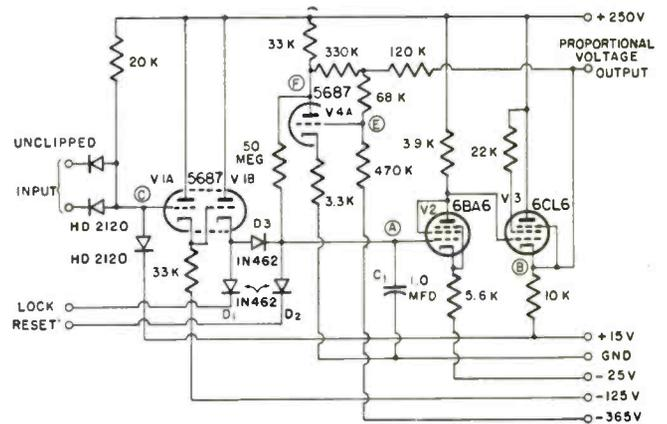

Fig. 5: Comparator circuit generates voltage for measuring units.
Referring to the circuit diagram of Fig. 5, we find that when P1 and P2 are both down, diode D2 conducts until the potential at point (A) is -25 volts. Under these circumstances V2 will conduct lightly, V3 will conduct heavily, and the potential at point (B), the proportional voltage output, will be roughly +150 volts. At the moment that reading of the first character of an address is begun, the outputs of P1 and P2 go to +15 volts. Under these circumstances, D1 and D2 can have no effect other than to prevent the potentials at points (A) and (D) from rising above +15 volts. The locator unit meanwhile tracks the bottom of the bottom line in the address, due to the fact that envelopes are scanned from bottom to top. With the proportional voltage still up at its maximum possible potential, M1 will get up slightly above the bottom of the bottom line in the address. We see then that whenever a scan signal is detected just after M1 gets up, the potential at point (C) will be forced to +15 volts. Under these circumstances the potential at (A) will be less than that at (D) and V1B will charge capacitor C1 through